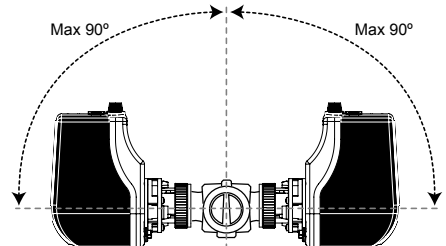

Figure 4
❻ Then place the actuator on the valve adaptor and turn clockwise 30°, until a “click” is heard. Please do not mount the actuator more than 90° from vertical (figure 4).